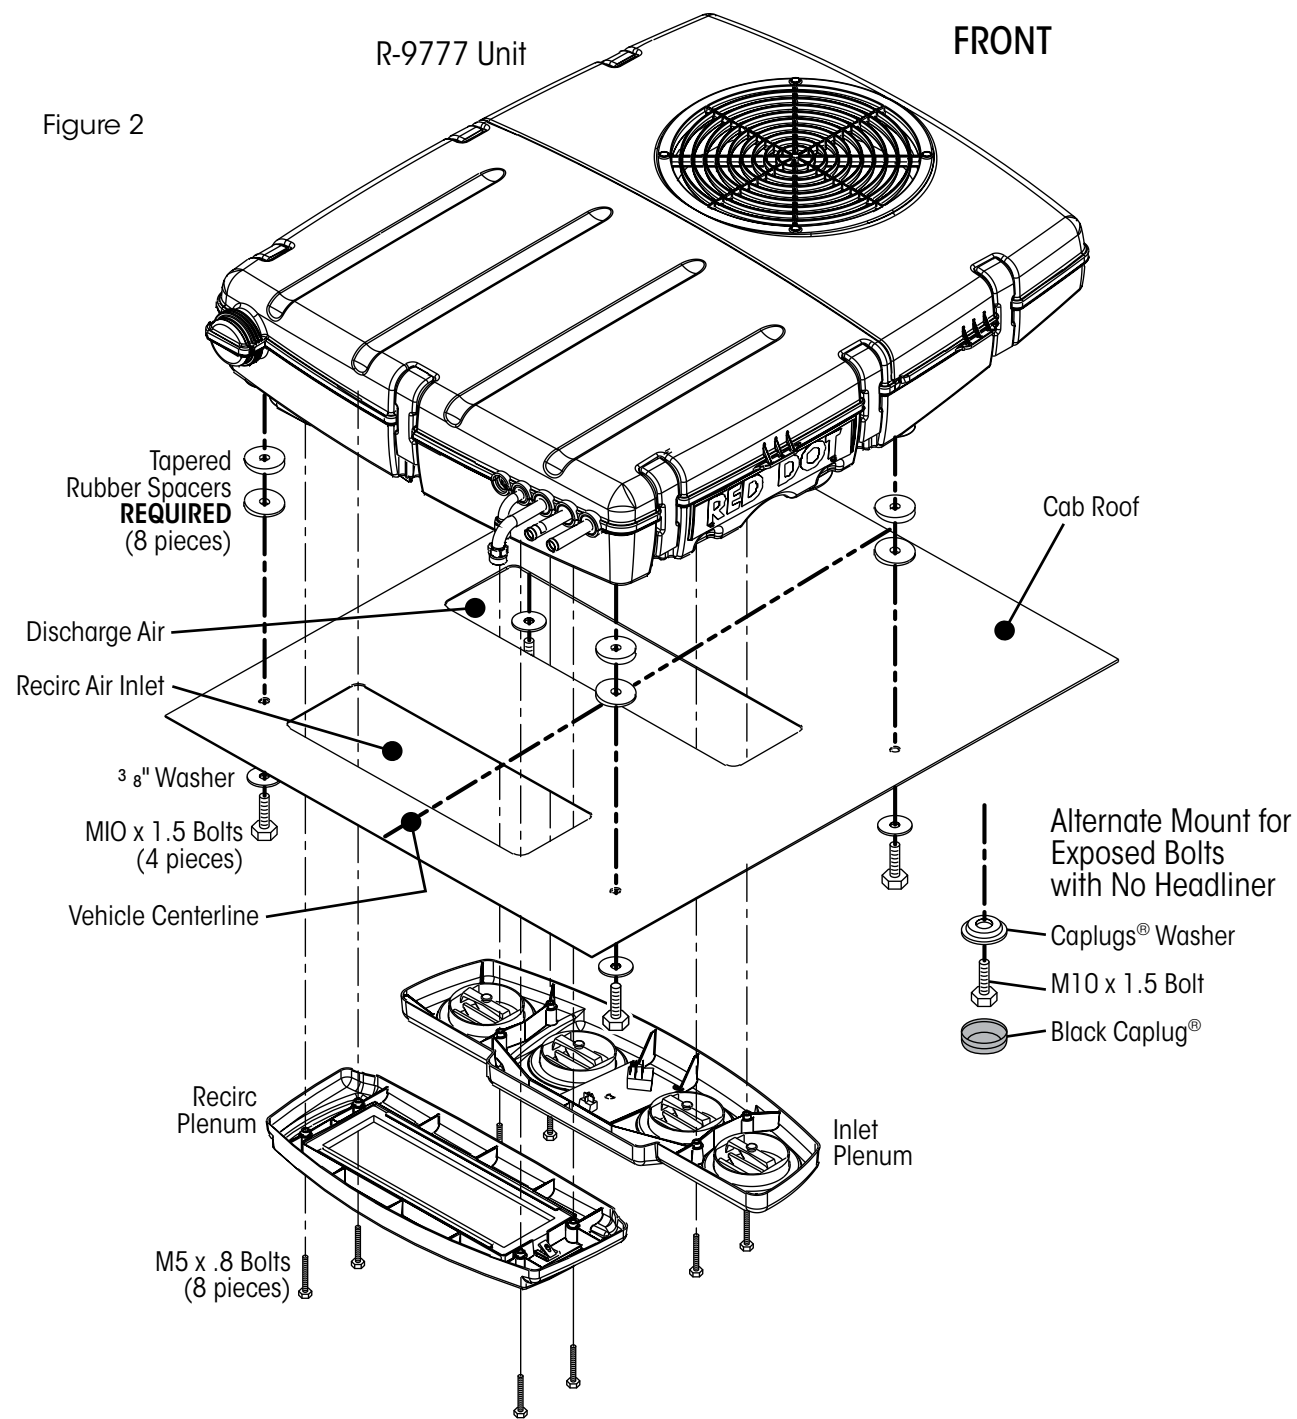

Figure 2
**NOTE:** The rectangular holes should go through the headliner, the mounting holes should not go through the headliner. If the headliner is difficult to remove (or if the cab has no headliner), drill the 1/2" (13mm) dia. mounting holes through the headliner and use cap plug washers and cap plugs (supplied with kit) in conjunction with the M10 mounting bolts as shown in figure 2.
6. Apply a bead of sealant around upper surface of roof cut-out and mounting holes. Completely fill bolt holes with silicone to ensure proper sealing. **Also, place two rubber tapered spacers on each of the mounting holes and rotate the spacers relative to one another to level the unit on the roof** (figure 2).